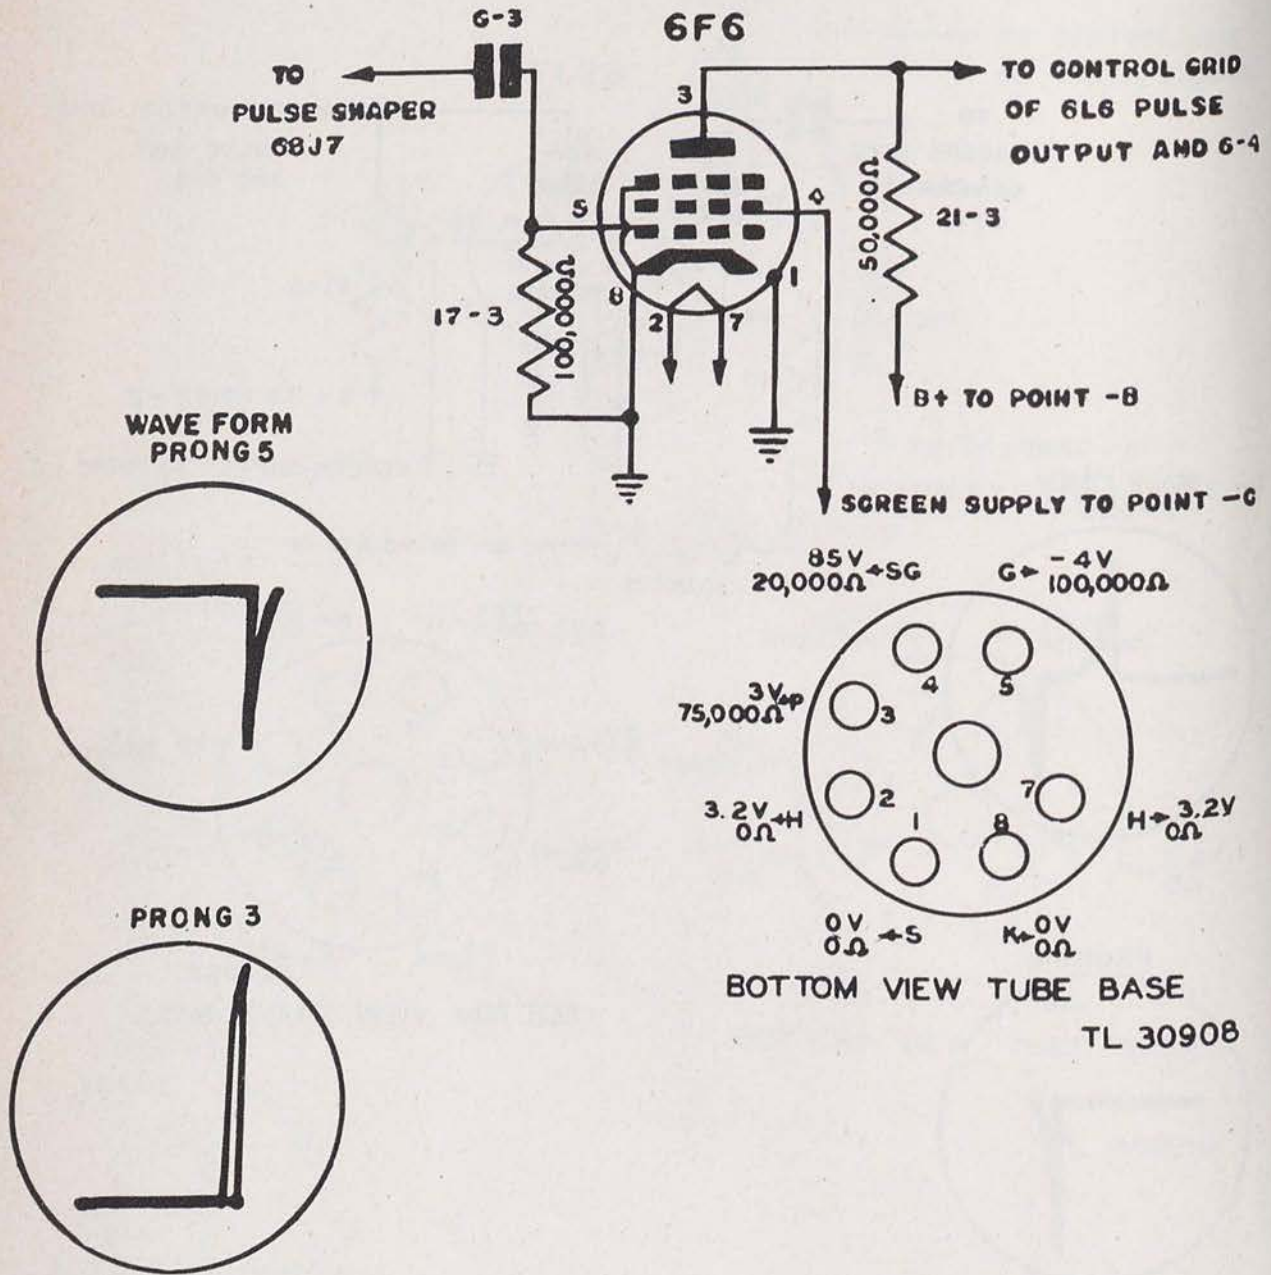

Figure 52. Keyer BC-758-A, pulse amplifier stage.
g. TESTING PULSE AMPLIFIER STAGE 6F6 (fig. 52). (1) Check for normal waveform indication between the control grid (tube prong 5) and ground. If no waveform indication is obtained,